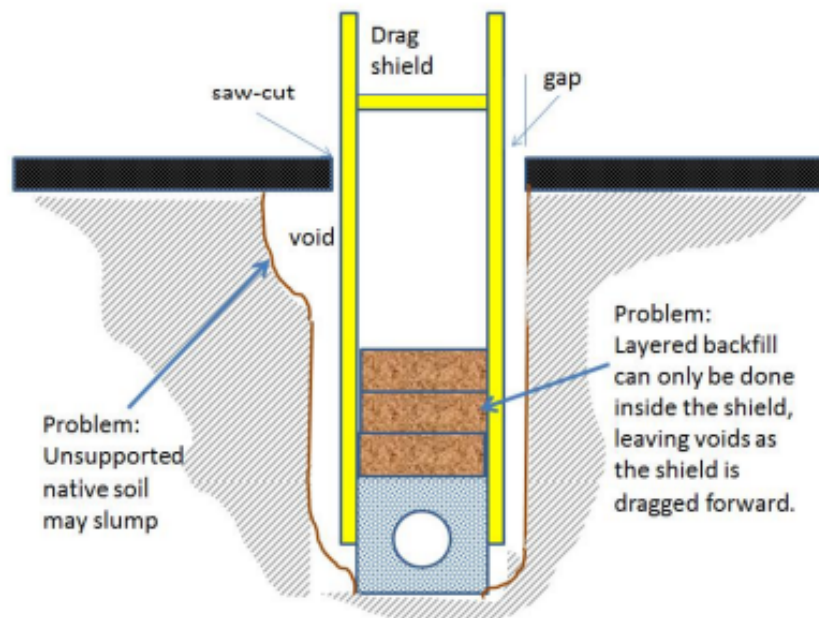

Figure 2-6 Do not use a drag shield in a trench that is wider than shield
When using trench shields, a methodology must be devised for backfilling the full width of the trench. Backfilling in compacted layers within the shield is pointless if the shield is pulled out afterwards causing the material to relax (see Figure 2-6 below). Instead, the shield must be withdrawn progressively as backfill progresses. The shield may have to be propped or otherwise safely supported to allow for removal in stages.
- ✓ There is a temptation to excavate the trench somewhat wider than the shield so that dragging the shield is not difficult, however this method is not recommended. Due to the voids outside the shield wall it becomes impossible to backfill the full width of the trench in compacted layers (refer to Figure 2-6).